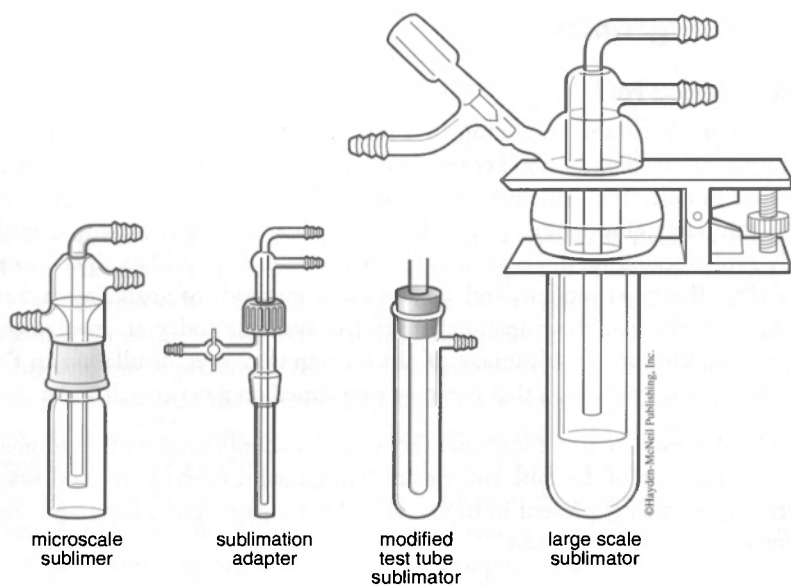

Figure 3-26. Sublimators.
In Figure 3-26 some types of apparatus used for sublimation are shown.
- A conical vial and Claisen head, along with a cold finger, can also be used for very small amounts, as shown in the Figure 3-26.